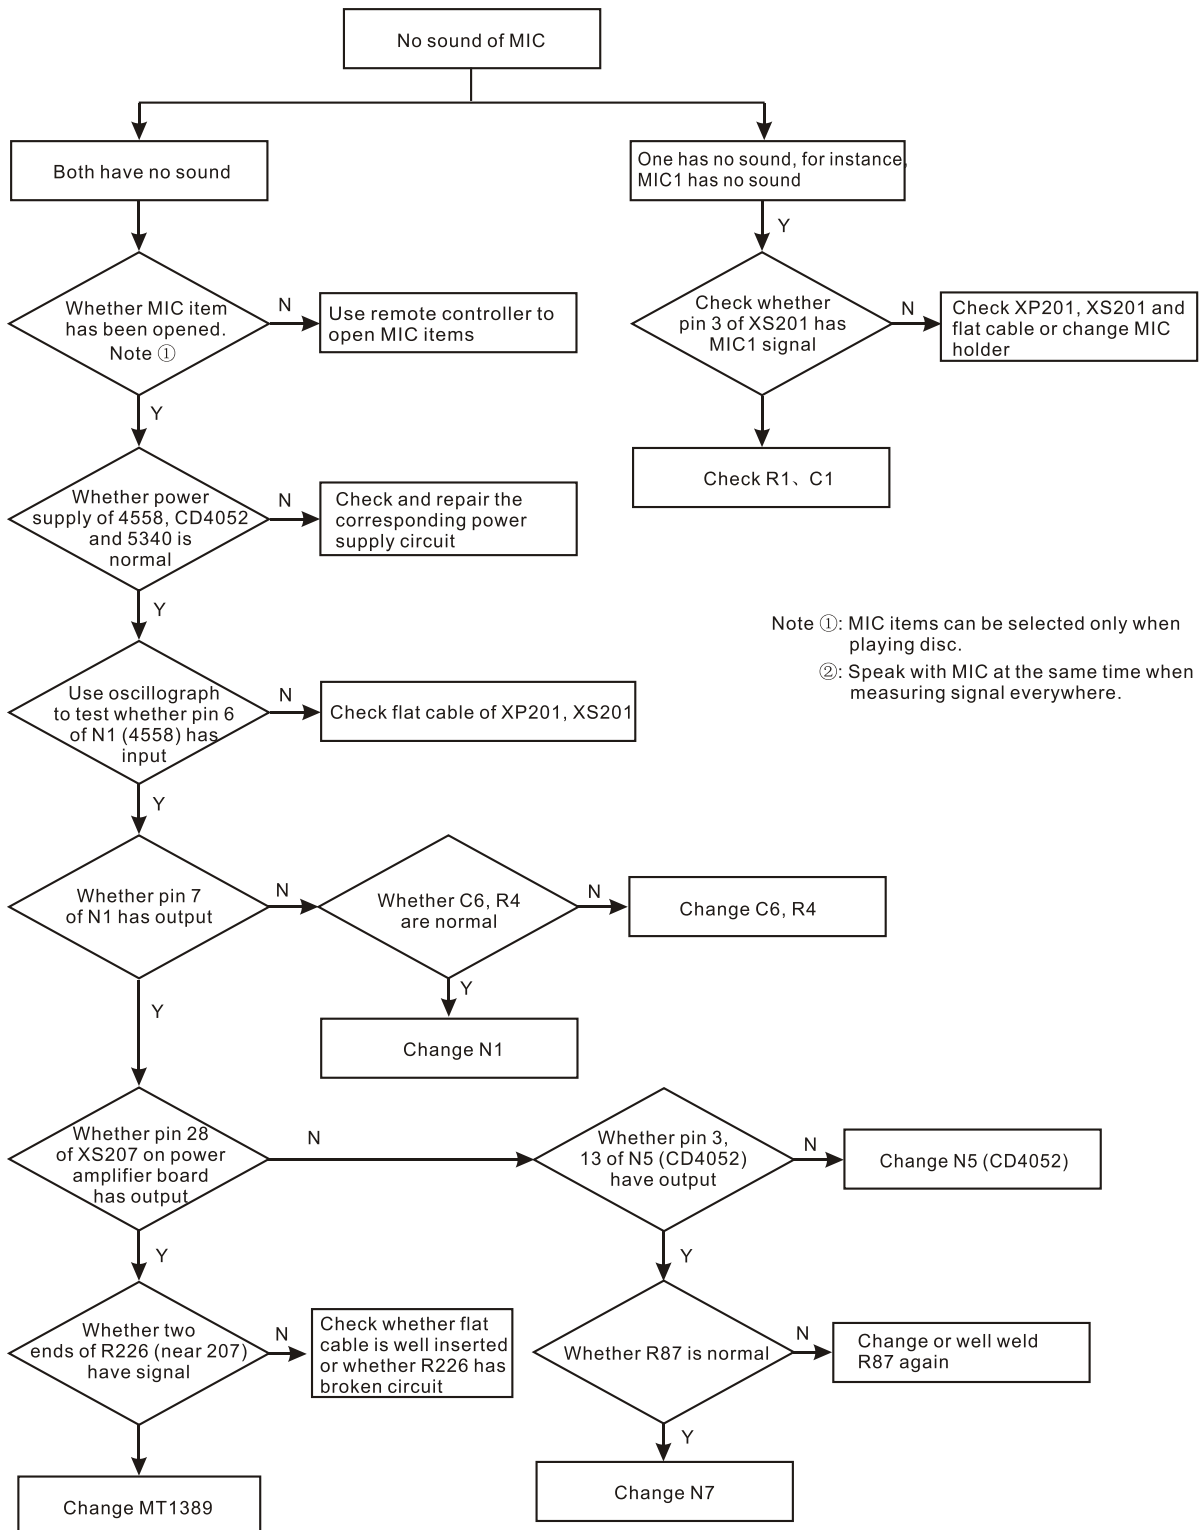

Figure 3.5.6.1 Troubleshooting flow chart for no sound of MIC
3.5.6 Troubleshooting process for no sound of MIC is shown as the following figure 3.5.6.1: